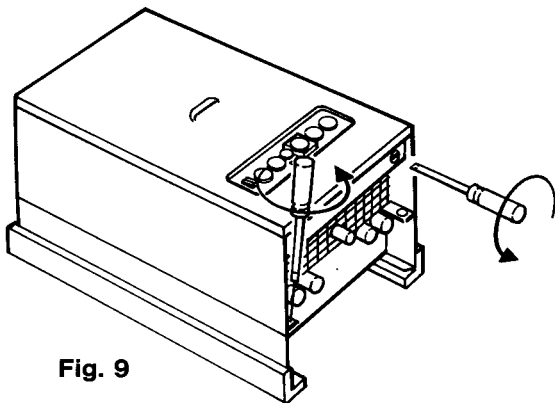

Fig. 9
- 5.3.1 Remove 4 screws securing the lower part of the casing to the base frame. (fig. 9)